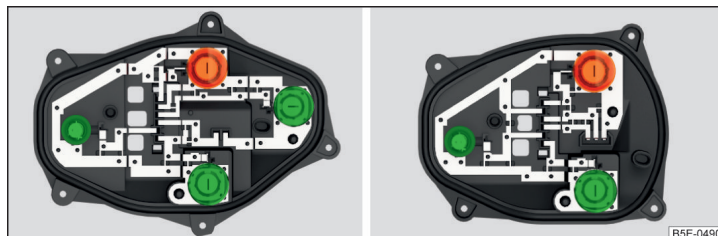

Fig. 233 Inner part of the light: Basic light/light with LED diodes
- Turn the respective light bulb » Fig. 233 until it stops **counter-clockwise** and remove it from the bulb holder.